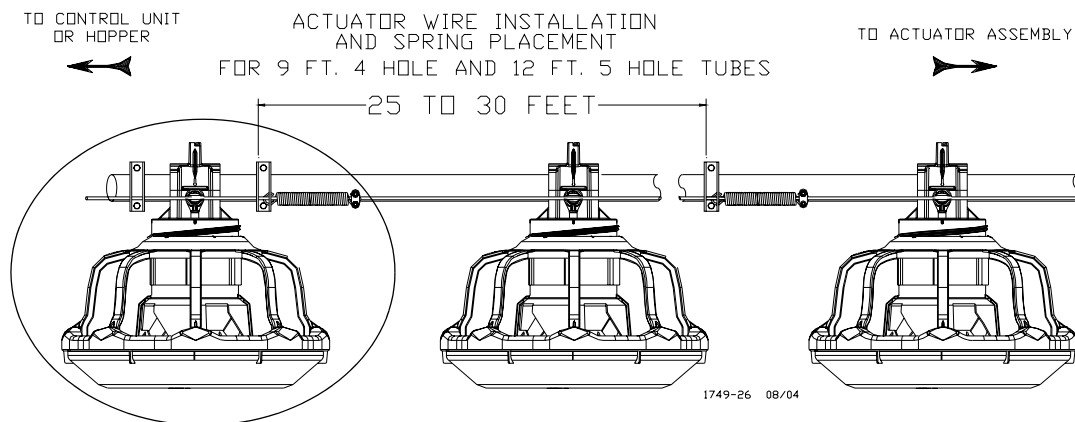

Figure 48. Wire layout for 9 ft. 4 hole and 12 ft. 5 hole
- Install the terminal spring and bracket (using 2 1/4-20 x 3 inch hex bolt and two 1/4-20 hex flange nuts) at the control unit **See Figure 46.** If necessary the last pan may need to be setup to push the vari-brood opening. **See Figure 48.**